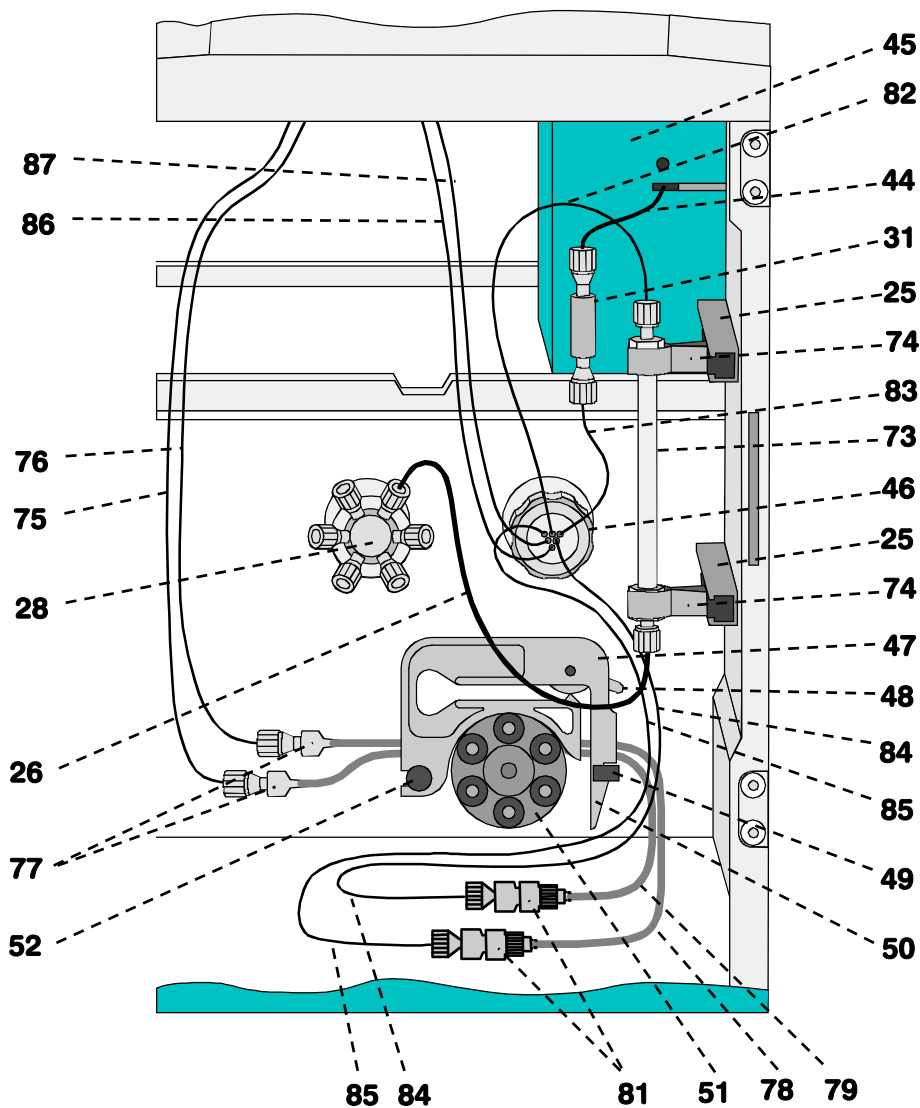
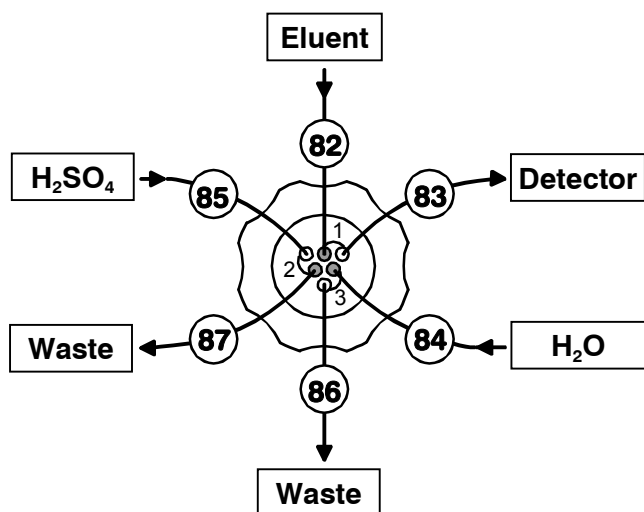

Figure 16: Connection of separation column with suppressor module «MSM II»
Figure 18: Connections at suppressor module «MSM II»
The three inlets and outlets numbered 1...3 on the suppressor module «MSM II» each have 2 permanently mounted PTFE capillaries, which must be connected as described in Section 2.8.4 (see Figure 16 and Figure 18).
- Loosen both tubing cartridges **47** from the holding clamp **49** by pressing down snap-action lever **50** and remove from mounting pin **52** (see *Figure 16*).
- Mount a 6.2744.010 Compression fitting at the end of the aspirating tubing **76** and screw this compression fitting on to the coupling **77** (see *Figure 16*).
- Mount a 6.2744.010 Compression fitting at the end of the aspirating tubing **75** and screw this compression fitting on to the coupling **77** (see *Figure 16*).
The three inlets and outlets numbered 1...3 on the suppressor module «MSM II» **46** each have 2 permanently mounted PTFE capillaries, which must be connected as follows (see Figure 16 and Figure 18).